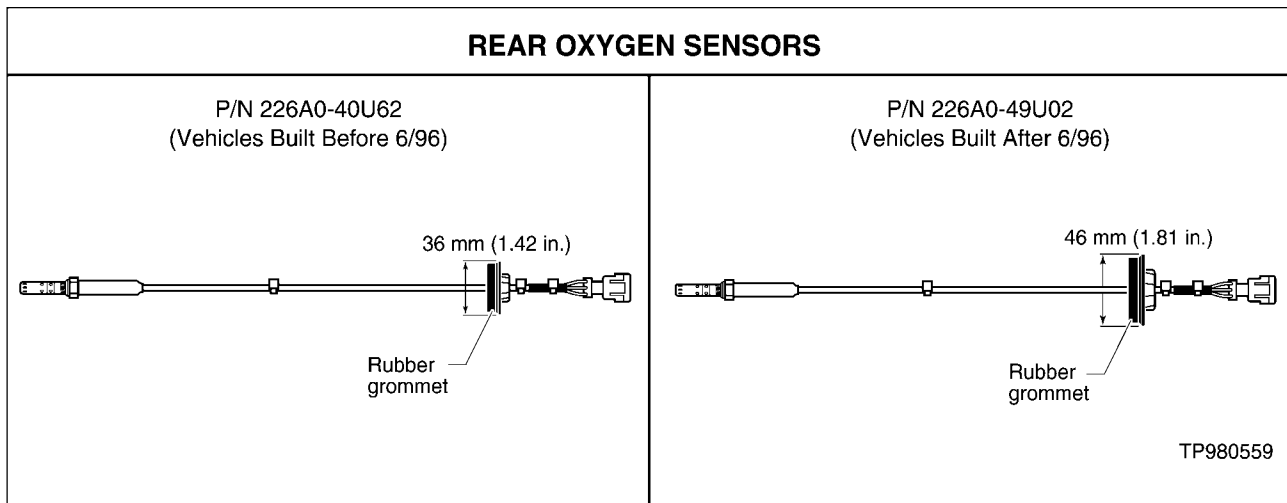

Figure 1
**NOTE:** There is a difference between the rear oxygen sensors depending on the production date of the vehicle. The difference is the size of the rubber grommet (see Figure 1).